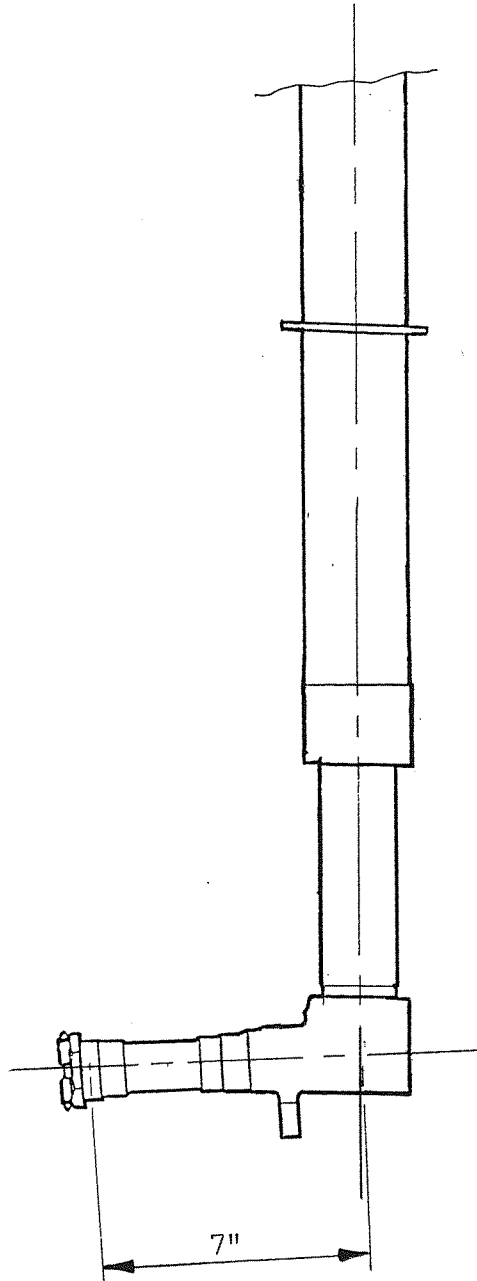

Fig 1
2. Measure 7 ins along the stub axle from the centreline of the plunger tube. See Fig. 1.